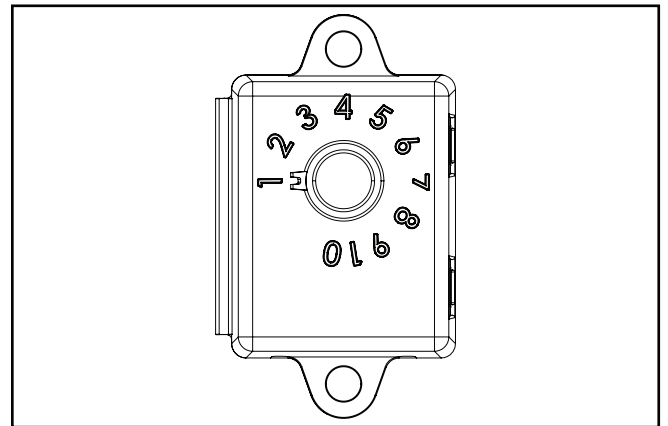

Figure 11.
2. FADC/FAWS switch has a knob with ten settings as indicated 1 thru 10 (Fig 11). Rotate switch to desired setting needed (see table below for reference).